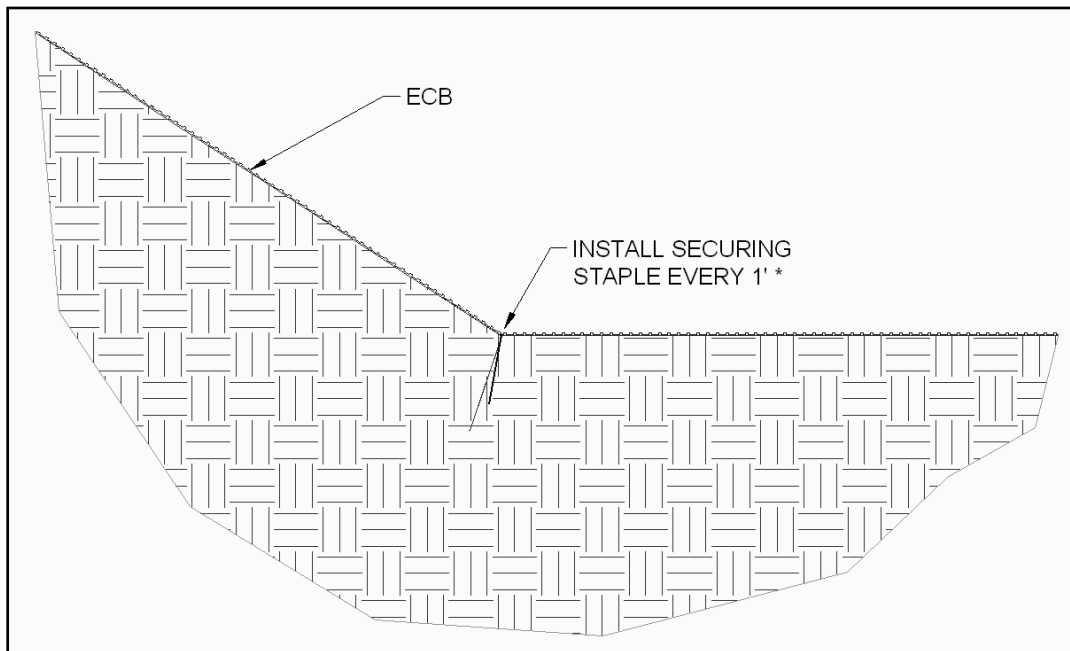

Figure 8: Break in Slope Interface
- At the break in slope interface towards the TOS, it is suggested that staples be installed on 1 ft (0.3 m) centers (Figure 8).